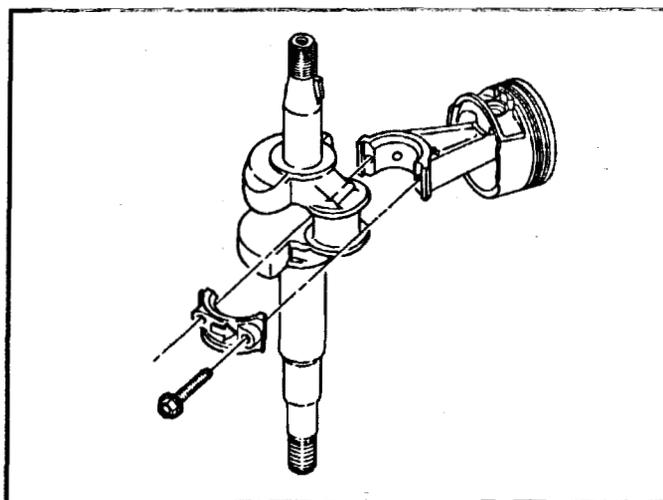

Figure 78
3. Install the rod cap with the arrow facing the push rod side of the engine. See Figure 78.